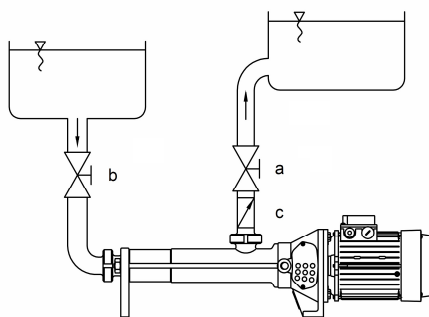

fig.1
If installing suction with load (fig.1), it is essential to install a valve (b) between the tank and the pump for subsequent handling.
**Pump loaded:** open the valves (a, b) so that the load liquid floods the body of the pump and it is primed (fig.1).